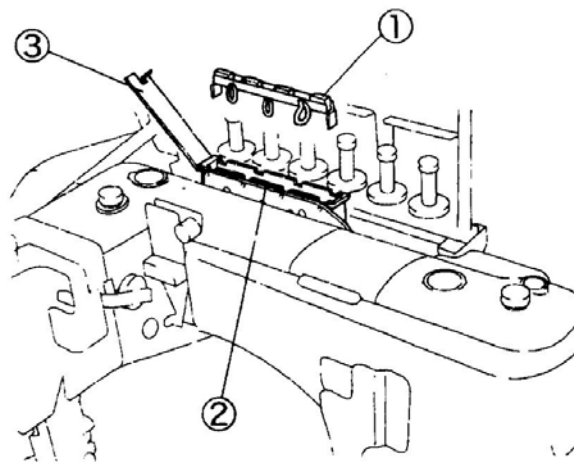

Fig.32
(Fig.32)
tank② when using.(Fig.32)